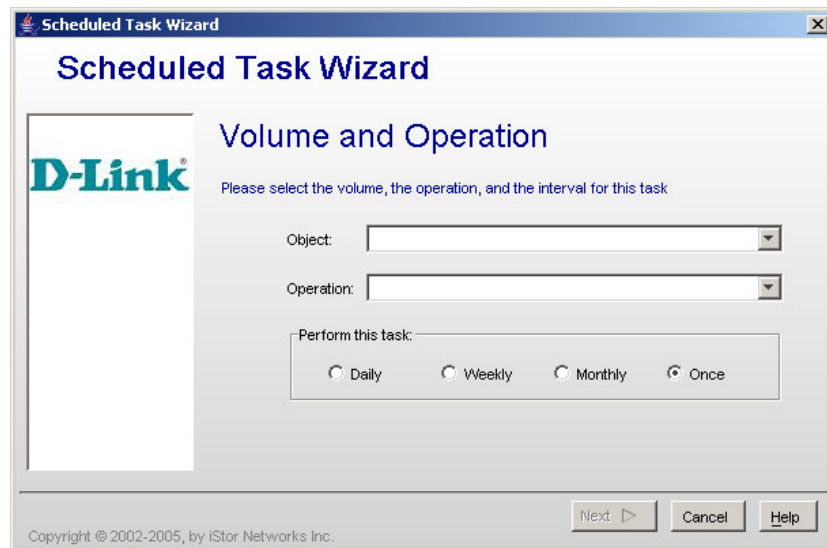

Figure 5-45. Scheduled Task Wizard – Volume and Operation
1. On the **View** menu, click **Create Task**. The Scheduled Task Wizard launches and the Volume and Operation screen appears (see Figure 5-45).